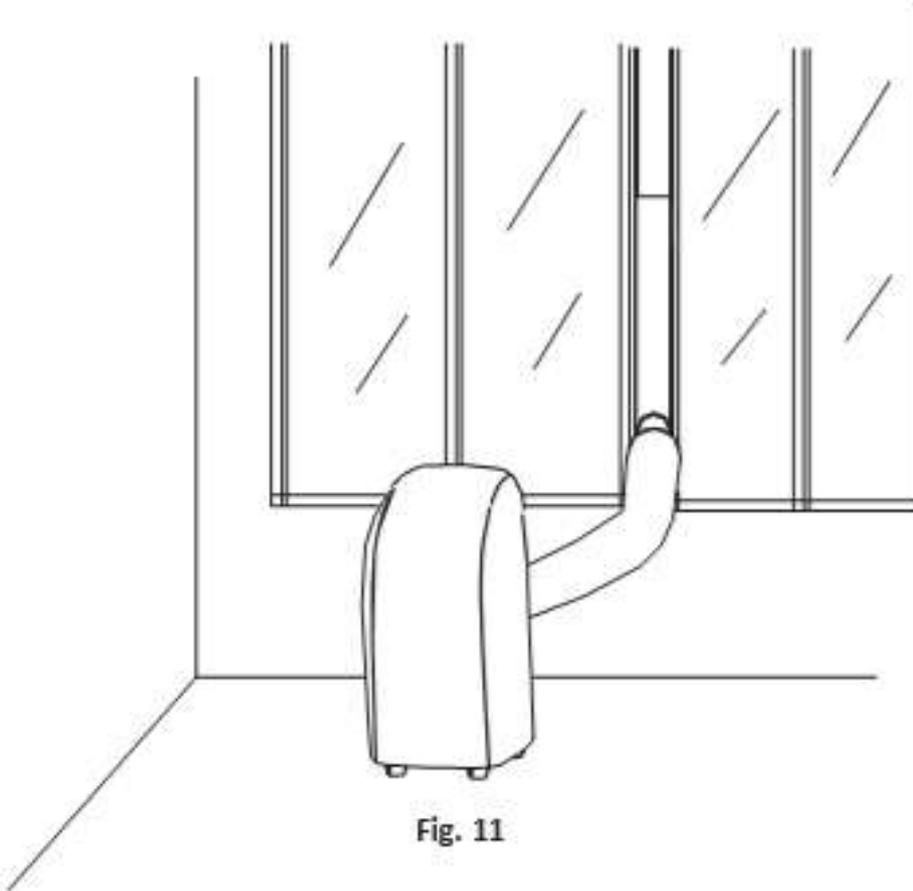

Fig. 11
12. The entire unit is now well-assembled, as shown in Fig11.